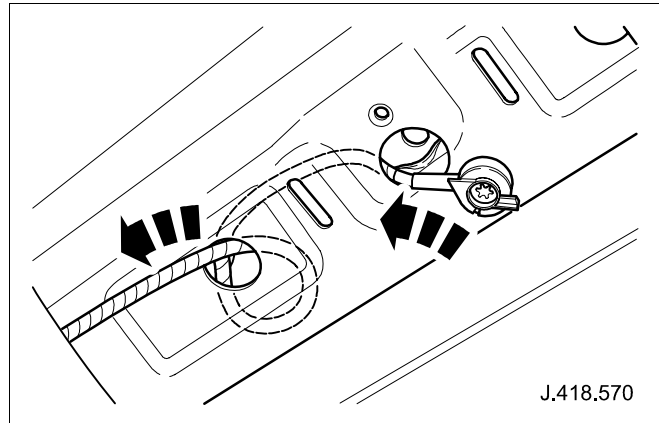

Fig. 15
- 45 Loop antenna cable between intermediate and strengthening panel holes. (See Fig. 15)